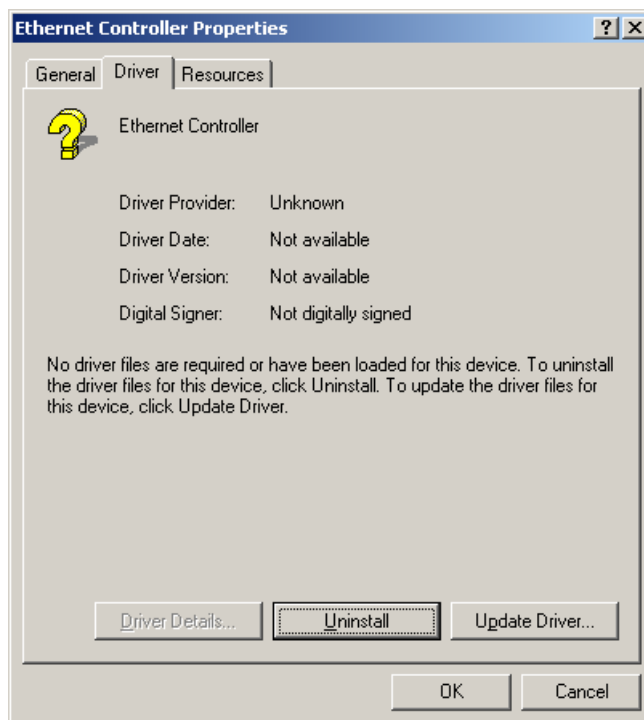

Figure 2-27 [Ethernet Controller Properties] dialog box
- 4) Double-click a network adapter. The [Ethernet Controller Properties] dialog box is displayed. Select the [Driver] tab. See Figure 2-27.